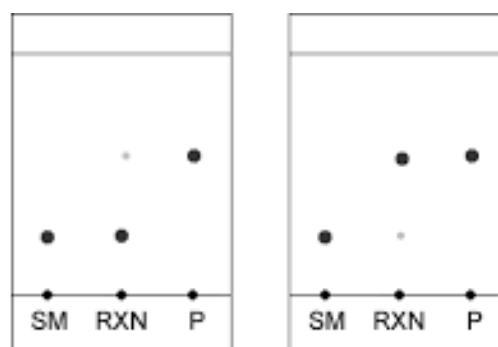

Figure 18. Monitoring the progress of a reaction by thin-layer chromatography.
Probably the most common use of thin-layer chromatography in the laboratory is for monitoring the progress of a reaction. Typically, we would spot three analytes: the starting material (SM), the reaction mixture (RXN) and the product (P) (Figure 18).
Research question: What stage of a reaction does each of the two TLC plates in Figure 18 represent?